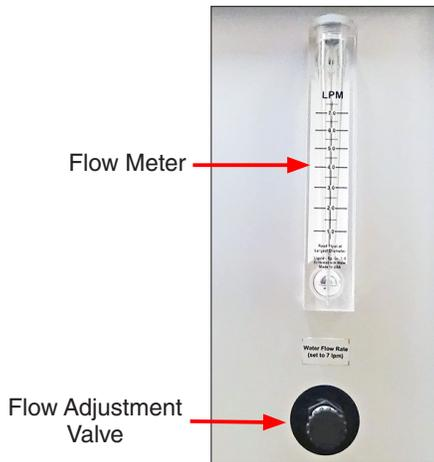
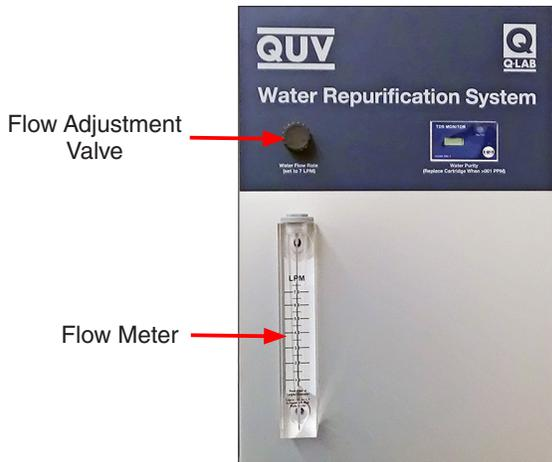

Figure 17.2b: Water flow adjustment on QUV/spray/rp integrated water repurification system.
Figure 17.2c: Water flow adjustment on QUV/spray stand-alone water repurification system.
- Spray water flow in QUV testers with water repurification systems is controlled by a water flow adjustment valve (Figure 17.2b and Figure 17.2c).